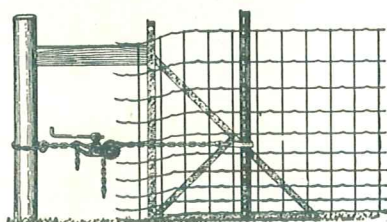
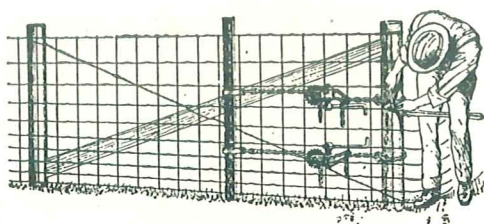

Figure 10
Figure 11
**Temporary stretching post:** A temporary stretching post (see Figure 10) should always be set about 4 feet beyond the end, corner or gate post to which the fabric is to be stretched, and braced against this post as indicated in the illustration—to provide a solid foundation against the stress of stretching. Set the temporary stretching post about 3 feet deep and tamp down the earth solidly around it.
**Stretching tools:** It is necessary to have a jack-and-clamp-bar stretcher, either like the Pittsburgh Stretcher shown in Figure 10 or some other equally effective make. For low heights of fence—up to 32 inches—a single-jack stretcher is adequate. For stretching fences higher than 32 inches, however, and for all lawn fences, the double-jack stretcher (see Figure 11) is needed to distribute the pull evenly over the whole width of the fabric. Otherwise the fence may be distorted. A single-wire stretcher will also be needed to take up the slack between the jack stretcher-bar and the post (see Figure 11) around which the cut-ends of the stretched line wires are to be tied (just as was done at the starting post).
The clamp-bar of the Pittsburgh Stretcher is provided with adjustable lugs to hold the wires firmly under tension. Attach the clamp-bar far enough back on the fabric (see Figure 10) so that all slack will be taken up before the bar reaches the post. Set the bar in the center of the mesh, equi-distant between the two stays all the way down the width of the fence. This is important, for it will enable you to see at a glance during stretching whether any line wire is slipping.
Now attach the jack (or jacks) to the clamp-bar. If you are using only a single-jack stretcher, be sure to attach the jack as nearly as possible so that an equal number of line wires will be above and below it (see Figure 10). Note particularly that this may not necessarily mean the actual center of the fabric width. If you are using a double-jack stretcher, space the jacks as nearly as possible so that an equal number of line wires will be above and below each jack (see Figure 11).
To attach the jack, loop the chain provided (see Figure 10) around the temporary stretching post and hook the jack-bar up close to it. Then hook the long chain to the stretcher clamp-bar sleeve, slipping the other end of the chain over the jack-gear wheel. Keep the chain straight. Now turn the jack handle to start stretching. The powerful worm and gear action of the jack quickly and easily brings the fence to the proper tension and holds firmly at any position without hooks, ratchets or locks of any kind.
With the stretcher held at taut position go along the fence line and staple the fabric securely to every line post (or, if you are using steel posts, fasten the clips provided). Your fence line is now complete except for the final stretching of the short end-section of fabric between the stretcher clamp-bar and the terminal post. This stretching must now be done with a single-wire stretcher (see Figure 11). With the jack stretcher still held at taut position, cut the fence far enough *outside* the terminal post to allow plenty of
tying space at the cut-ends after stays are removed as at the starting post. Now, beginning at the top line wire, attach the single-wire stretcher, pull up the slack as tightly as possible and hold the wire taut while the loose end is wrapped all the way around the post and securely fastened at the inside center-line of the post (see Figure 11). Repeat this stretching and tying operation with each line wire, taking care to get them all evenly stretched. When you have finished—remove the jack stretcher and that particular fence line is finished.